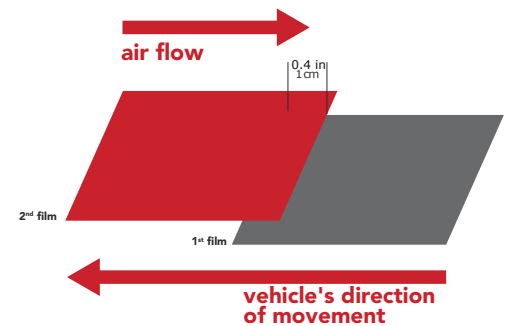

Figure 26
- Vertical overlap on a mobile surface: Assuming you always apply the film starting from the rear of the vehicle and moving to the front, then the overlapping will be done in the same way. (FIG. 26)